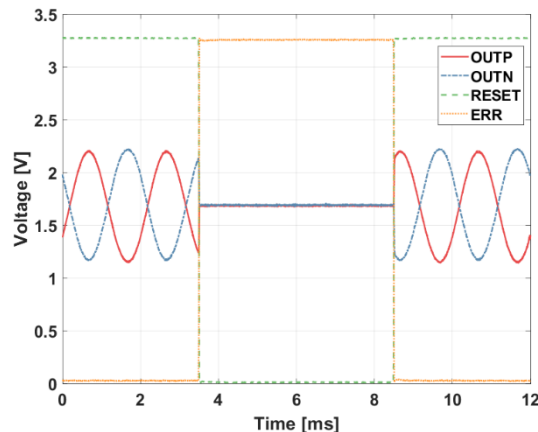

Figure 16: Typical sensor reset sequence with external reset
An external reset can be activated by the user through the RESET input pin. During a reset phase, the accelerometer outputs (OUTP & OUTN) are forced to $V_{DD} / 2$ and the error signal (ERR) is activated (high), see Figure 16.
- During external reset phase (user activation of the reset, See Figure 16)